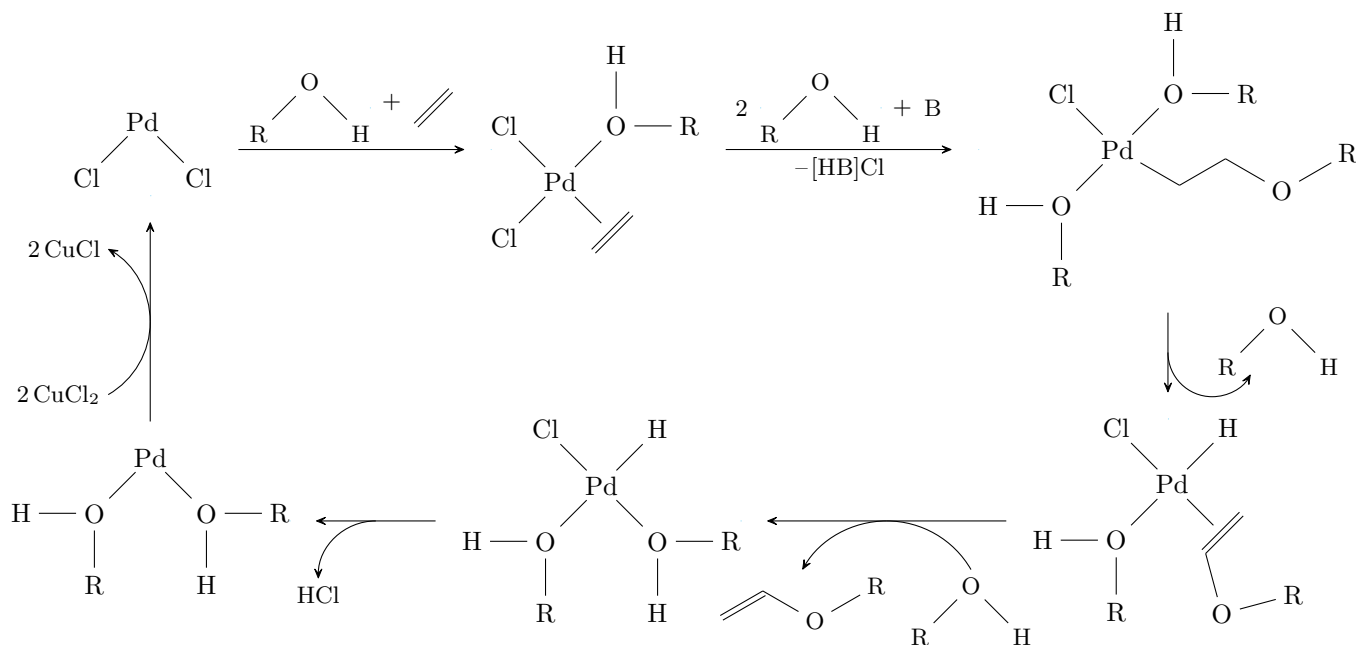

Figure 5.6: Wacker oxidation mechanism (for an alcohol).
- Alternate Wacker oxidation mechanism (for an alcohol; see Figure 5.6):